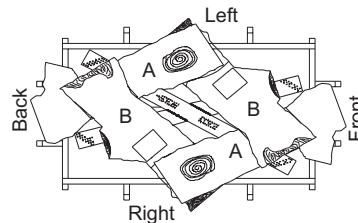

Figure 50 - Installing Logs "B" (Top View)
6. Place logs "B" as shown in Figure 50. Lift end of log "A" that will be propped up and place log "B" under it. At the same time, the other side of log "B" is placed over the other log "A". Repeat procedure for the other log "B".